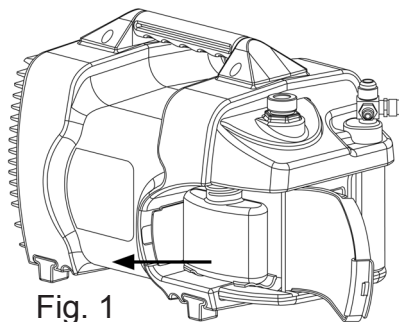

Fig. 1
3. While holding the lower part of the TEZOM, pull the cartridge out of the side of the vacuum pump. (Fig. 1)